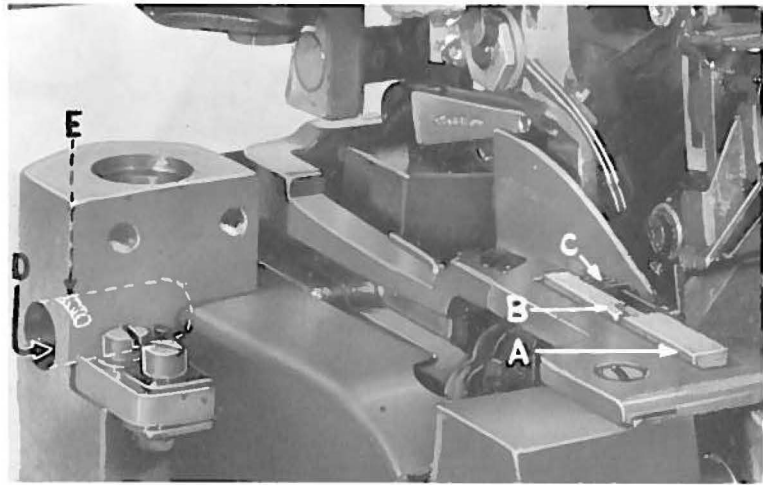

Fig. 9
Assemble and set the differential feed dog (A, Fig. 9) and main feed dog (B) so that top surfaces of the feeding surfaces all lay in the same plane. This can be checked by sighting across feeding surface with a straight edge. Feed surfaces should now be leveled with the throat plate surfaces by rotating feed tilting adjusting pin (D). This pin raises or lowers the back end of both feed bars at the same time.